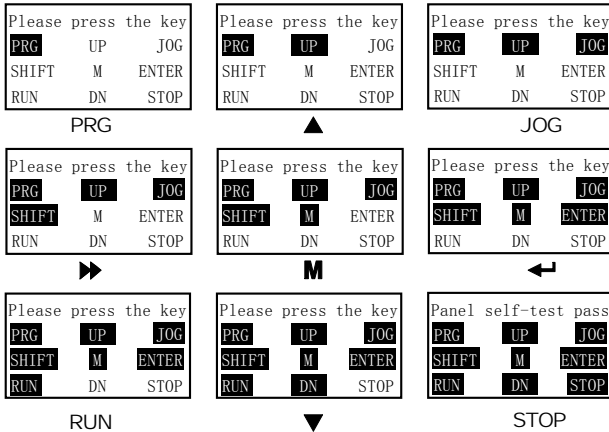

Figure 5-12 Correct correspondence of the keys and the displays
2. Press any key of the panel and if the state is in anti-color display, it means the key is valid. And the correct correspondence is as shown in Figure 5-12.